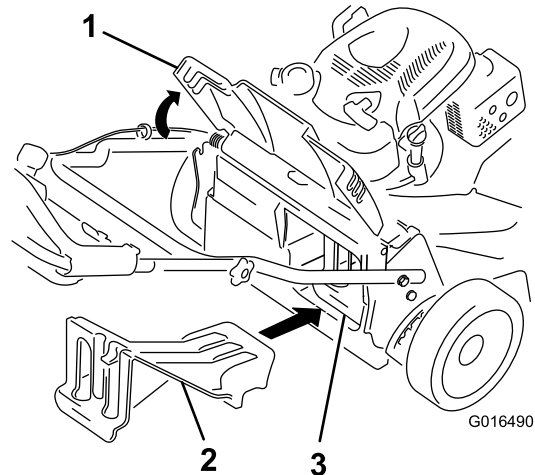

Figure 24
- If the rear-discharge plug is not installed, grip it by the handle, raise the rear door, and insert it into the rear-discharge chute until the latch locks into place; refer to Figure 24.
Important: Ensure that the rear-discharge plug is in place before you recycle the clippings (Figure 24).